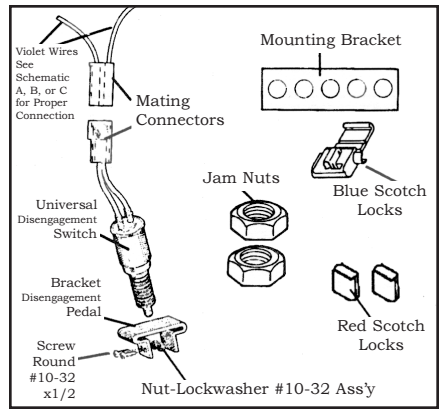

Figure 3
REFER TO FIGURE 3 AND SEE SCHEMATIC A ON PAGE 3.
REFER TO FIGURE 3 AND SEE SCHEMATIC B.
REFER TO FIGURE 3 AND SEE SCHEMATIC C ON PAGE 3.
Step 5: Plug **Mating Connectors** together, see **FIGURE 3**. Verify Switch is operating with a Volt Meter or Test Light and Test Drive.